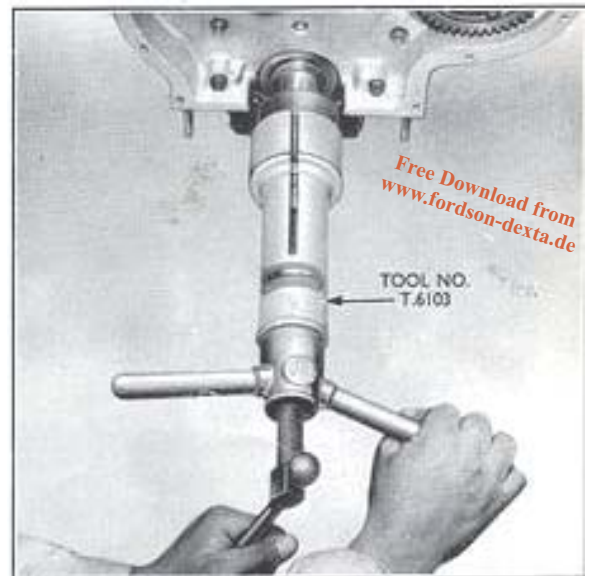

Fig. 16
3. Screw the centre bolt of the crankshaft gear replacer (Tool No. T.6103) into the adaptor and fit the semi-circular key locator (T.6103-1/b). The boss on the outside of the key locator must be fully entered into the slot on the tool body, and the slot on the inside of the locator must locate over the key in the crankshaft (see Fig. 16).